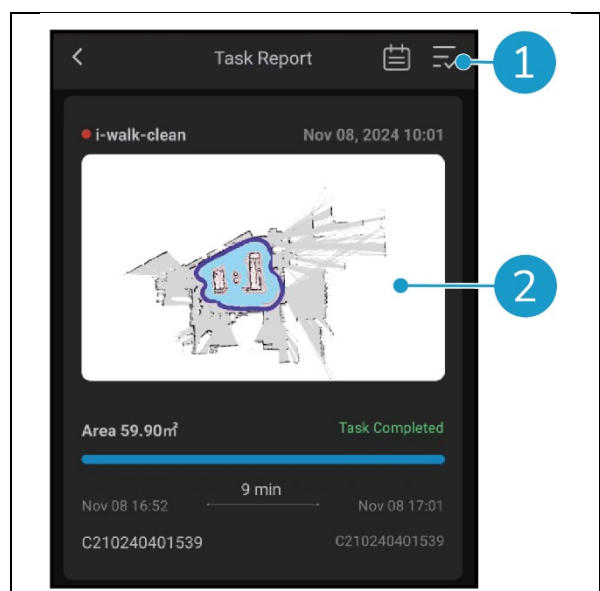

Figure 34
- Tap the button in the top right (Figure 34, pos. 1) to mark all current reports as read and remove them from the view.
- Tap a report in the list (Figure 34, pos. 2) to open the Task View.